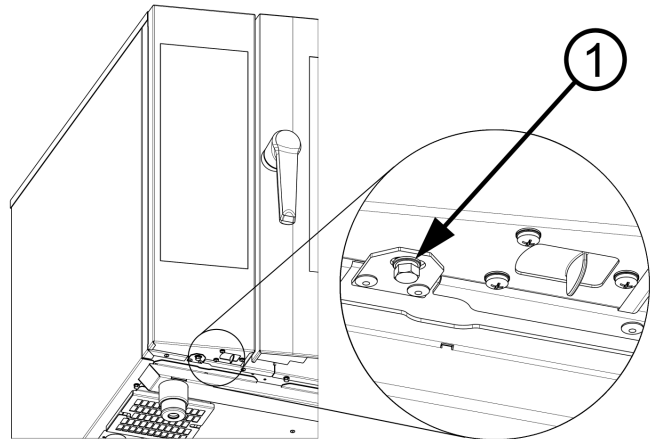

Figure 11: Loosening the control panel
Loosen the control panel by unscrewing the M4 bolt with washer (1) from underneath the control panel (see fig. 11), and remove the panel by sliding upwards, pull out towards you and flip out to the left.